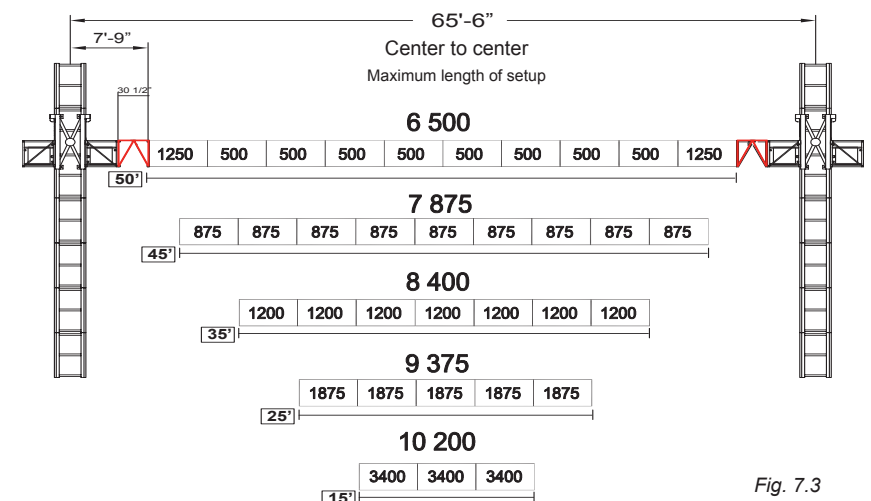

Fig. 7.3
**NOTE:** The configuration illustrated in fig. 7.3 (above) requires the use of two motorized units and two optional twin mast adapters (shown in red).